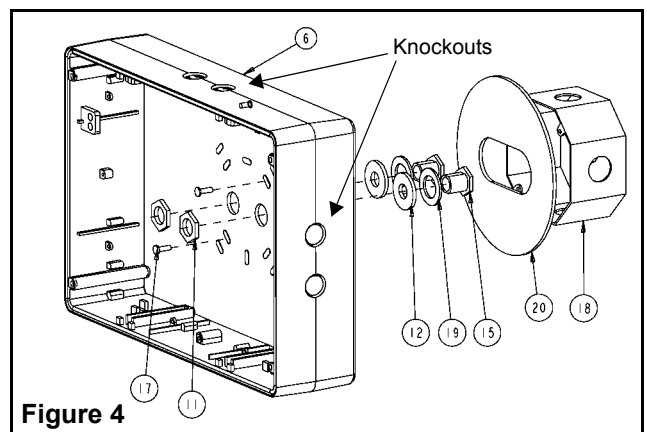

Figure 4
For **Nexus** option, install the liquid tight fitting, provided with the unit. For Ceiling mount, use the k'out located on side of the unit (opposite side of the diagnostic display). For Side mount, use the k'out located on top of the unit (see fig. 4).
- a. Remove the backplate from the packaging. Determine the proper knockouts to remove for mounting to a junction box (see fig.4). For **Nexus** option, install the liquid tight fitting, provided with the unit (see fig. 4).
- c. Mount parts 11, 12, 15, 17 & 19 to backplate, as shown in fig. 4, and reinstall the backplate to the frame using the 4 tamper-proof screws (use the supplied bit).